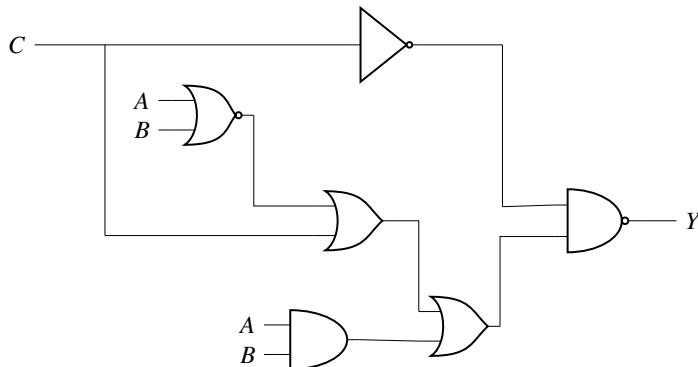

Fig. 3.20
37. In the circuit shown in Fig. 3.20, if $C = 0$, the expression for Y is